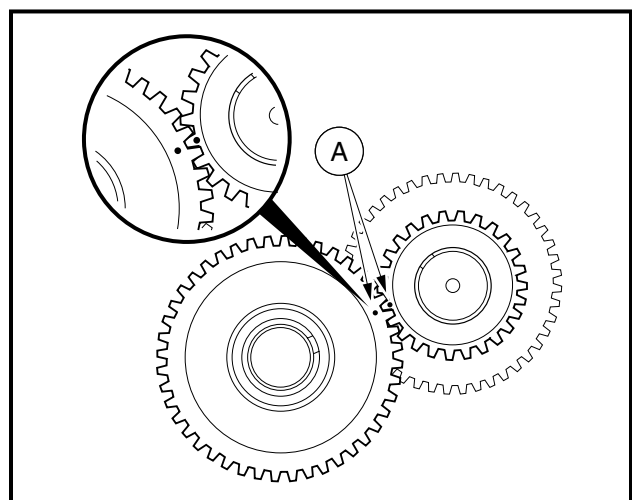

Figure 18-39 Timing Mark Alignment
1. Keep the timing marks (A) aligned during removal (**Figure 18-39, Page 18-21**).